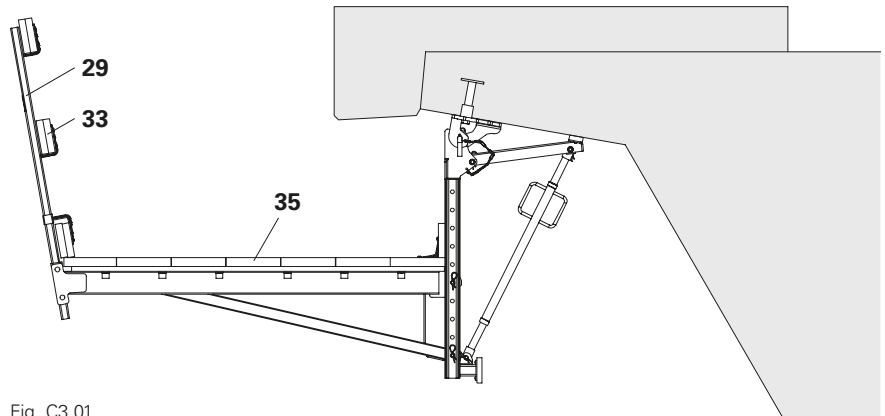
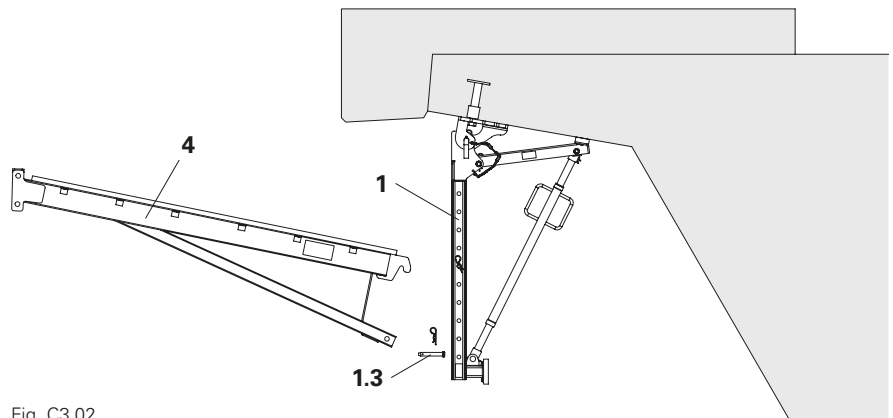

Fig. C3.01
Fig. C3.02
1. Remove guardrail boards (33) and Guardrail Post-2 HSGP (29).
2. Remove the planking (35) continuously. (Fig. C3.01)
3. Remove Platform Cantil. Beam VGK 170 (4).
4. Re-install bolts and cotter pins (1.3) in Bracket Post VGK (1). (Fig. C3.02)